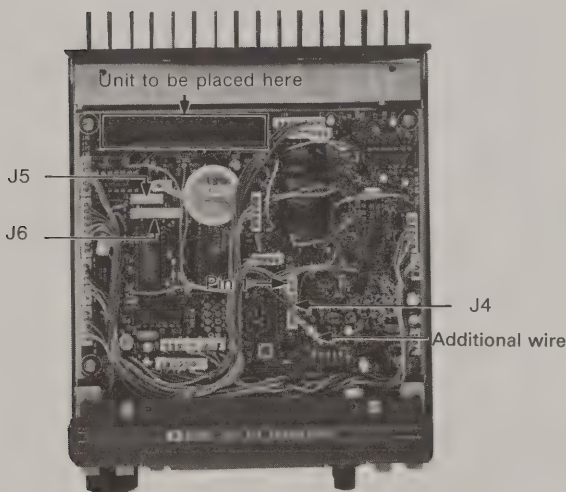

Fig. 2
- 2) Install the unit onto the spot as shown in the photo below. (Fig. 2)
- 3) Install the brown wire. (Fig. 2)